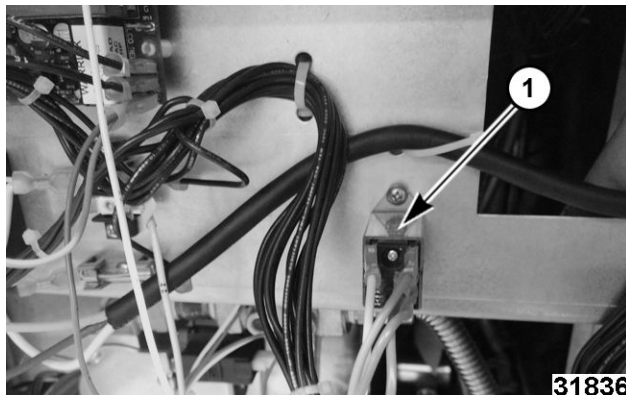

Fig. 1
**NOTICE** Verify steamer has a K3 relay (1, Fig. 1) installed. If K3 relay is not in steamer, one must be installed during new burner assembly installation for burner assembly to work properly.